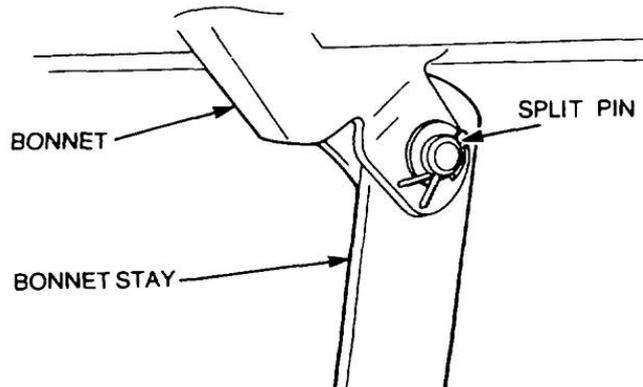

Figure 151 Removal of the Bonnet
- b. Open the bonnet and remove the split pin securing the clevis pin in the bonnet stay (Figure 151). Remove the clevis pin to allow the stay to be detached.
- b. Position the stay in the bracket (Figure 151) and install the clevis pin and split pin.